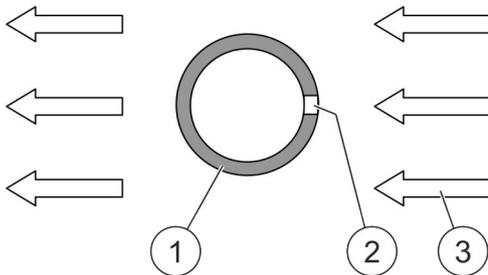

Fig. 29: Suction pipe and air flow
2. ➔ Align the suction pipe (Fig. 29/1) with the suction bores (Fig. 29/2) so that the suction bores are directed against the air flow (Fig. 29/3) (e.g. from air-conditioning devices or fans).